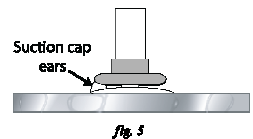

fig. 5
6. Should you wish to remove the bath seat for any reason, this can be done by simply lifting the ears of the 4 suction caps (see fig. 5), this will cause the suction to be released. To refit, repeat the fitting instructions above.